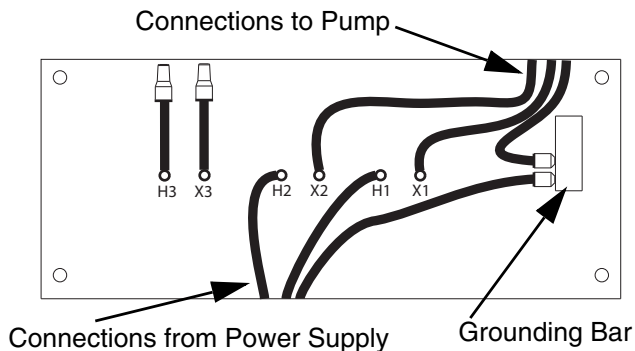

Fig. 9: Transformer Wiring Connections
- Refer to **Figure 9** on page 12 and connect the wires from the power cord to the wires marked H1 and H2 inside the transformer.
- Connect the power cord ground wire to the grounding bar inside the transformer as shown in **Figure 9** on page 12.
NOTE: The other wires shown in **Figure 9** (H3, X3) are connected at the factory and are not required for connecting the transformer to the pump.